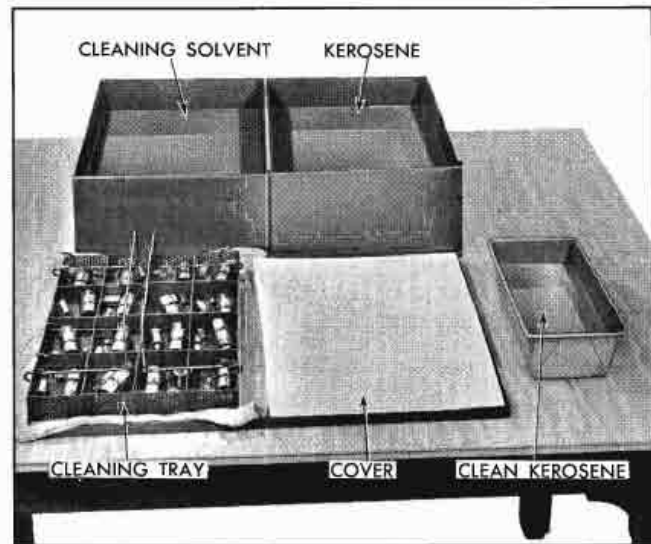

Fig. 6-24 Lifter Wash Tank and Tray J-5821
Wash tank and tray J-5821 (Fig. 6-24) is recommended for cleaning valve lifters. This tank should be used only for valve lifters and should be kept covered when not in use. All servicing should be done in an area removed from grinders or other sources of dust and foreign material.
3. Drain oil out of lifter body and place all valve lifter parts in separate compartment of tray from wash tank J-5821 (Fig. 6-24).
5. Wipe out tank cover and place tray of parts on cover in front of tank (Fig. 6-24). A shop towel under tray and clean paper on remainder of cover will enhance cleanliness.